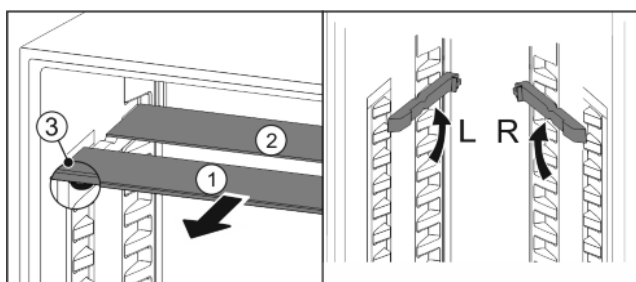

Fig. 20
- ▶ Pull the glass panels out Fig. 20 (1) from the front, one at a time.
- ▷ The glass panel Fig. 20 (1) with the trim strip is at the front.
- ▷ The stops Fig. 20 (3) point downward.